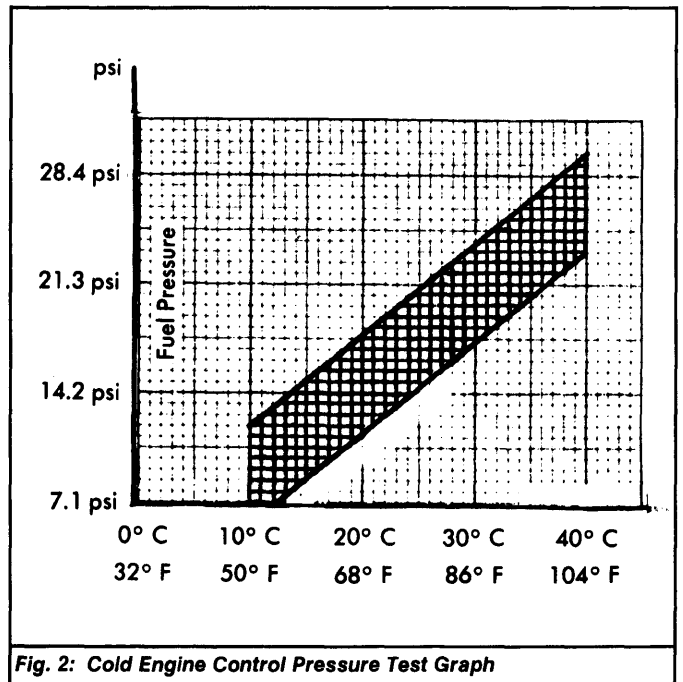

Fig. 2: Cold Engine Control Pressure Test Graph
- 2) Unplug electrical connector at auxiliary air regulator to avoid overheating unit. Unplug connector at mixture control unit. Turn ignition on. Open 2-way valve for flow-through operation and check fuel pressure. See Fig. 2.